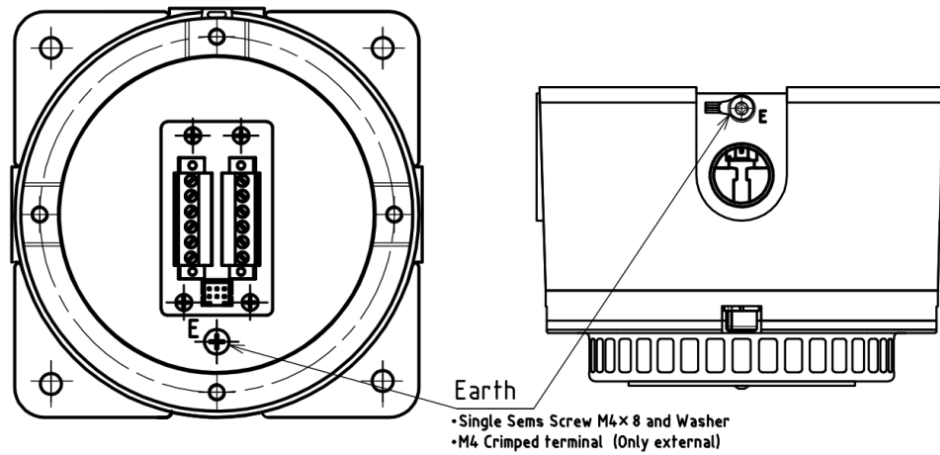
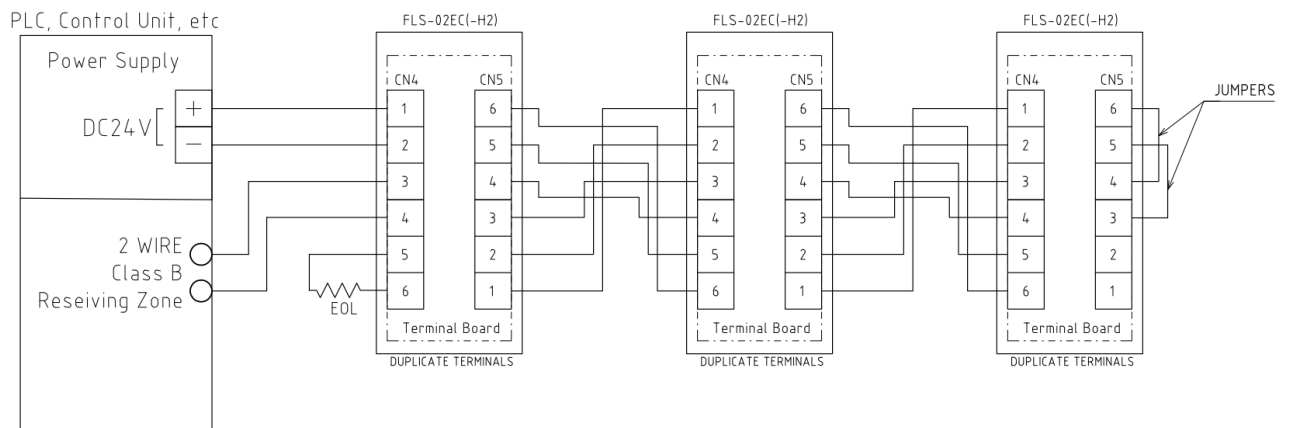

Figure 6 - Earth terminal
Figure 10 - Wiring Diagram
- 2) Connect the external wiring to the appropriate terminals according to "6.3.1 Specification". Refer to Figure 6 for the earth terminal location and Figure 10 for the wiring diagram.